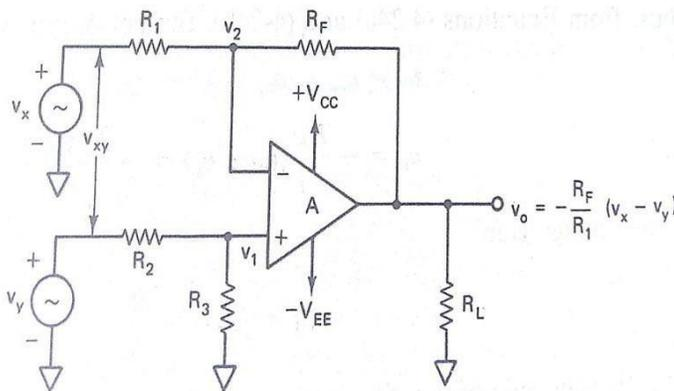

Figure 4-14 Differential amplifier with one op-amp.  $R_1 = R_2$  and  $R_F = R_3$ .
- Figure 4.14 shows the diagram of difference amplifier
- A close examination of the figure 4-14 reveals that difference amplifier is a combination of inverting and non-inverting amplifiers i.e. when  $V_x = 0$ , circuit is a non-inverting amp.
- The circuit in the figure 4-14 has two inputs  $V_x$  and  $V_y$ . Therefore we use super position theorem in order to establish the relationship between inputs and output.
- **Example:** In the circuit of figure 4-14,  $R_1=R_2=1K\Omega$ ,  $R_f=R_3=10K\Omega$ , and the op-amp is a 741C, a) what are the gain and input resistance of the amplifier?